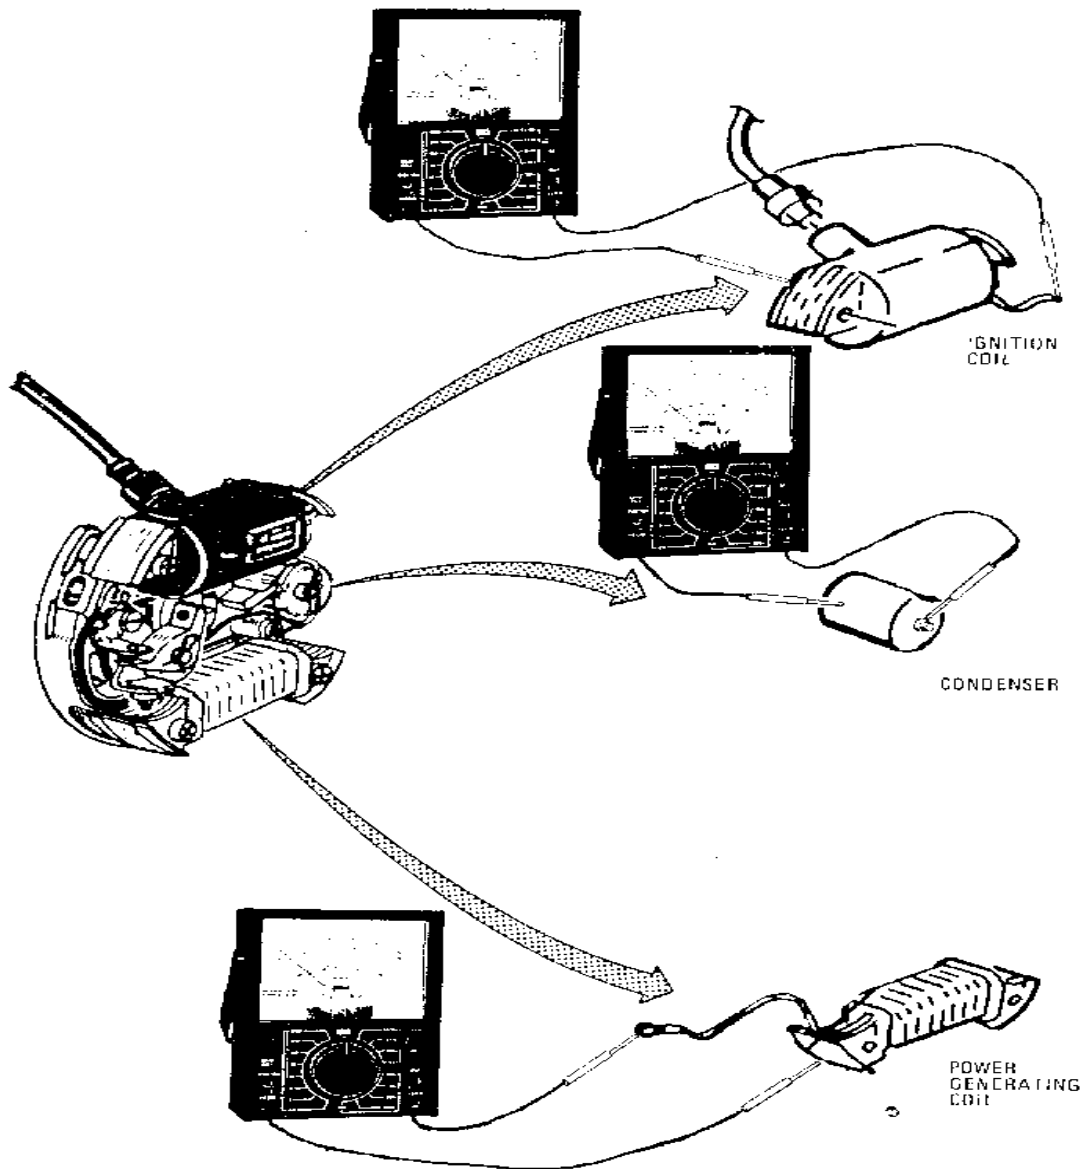

Figure 2, Power Generating Coil and Condenser
- Check condenser for short to ground. Reading must be infinity. Replace condenser, if reading is low or pitting and excessive transfer of metal is noted on ignition point contacts. (Figure 2)
- Check power-generating coil for continuity between output lead to TB2-2 and ground, it should read approximately 0.5 ohms. Lead must be disconnected. Reject if reading is significantly above or below 0.5 ohms. (Figure 2)